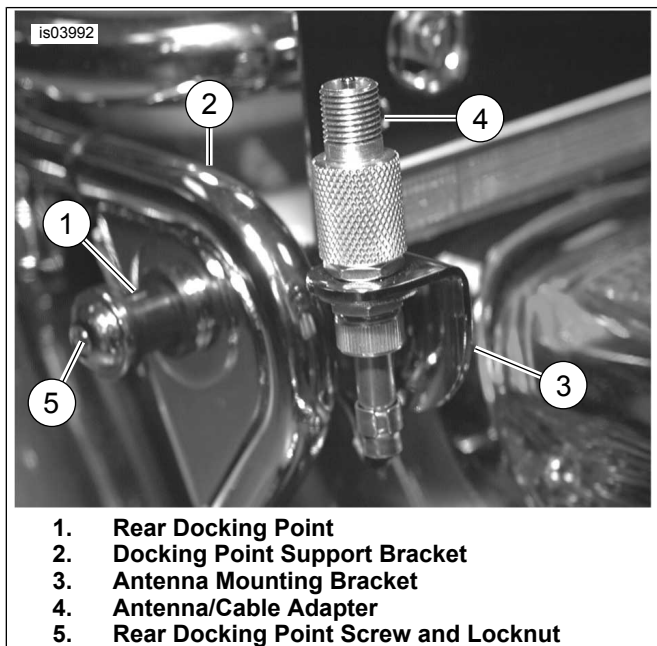
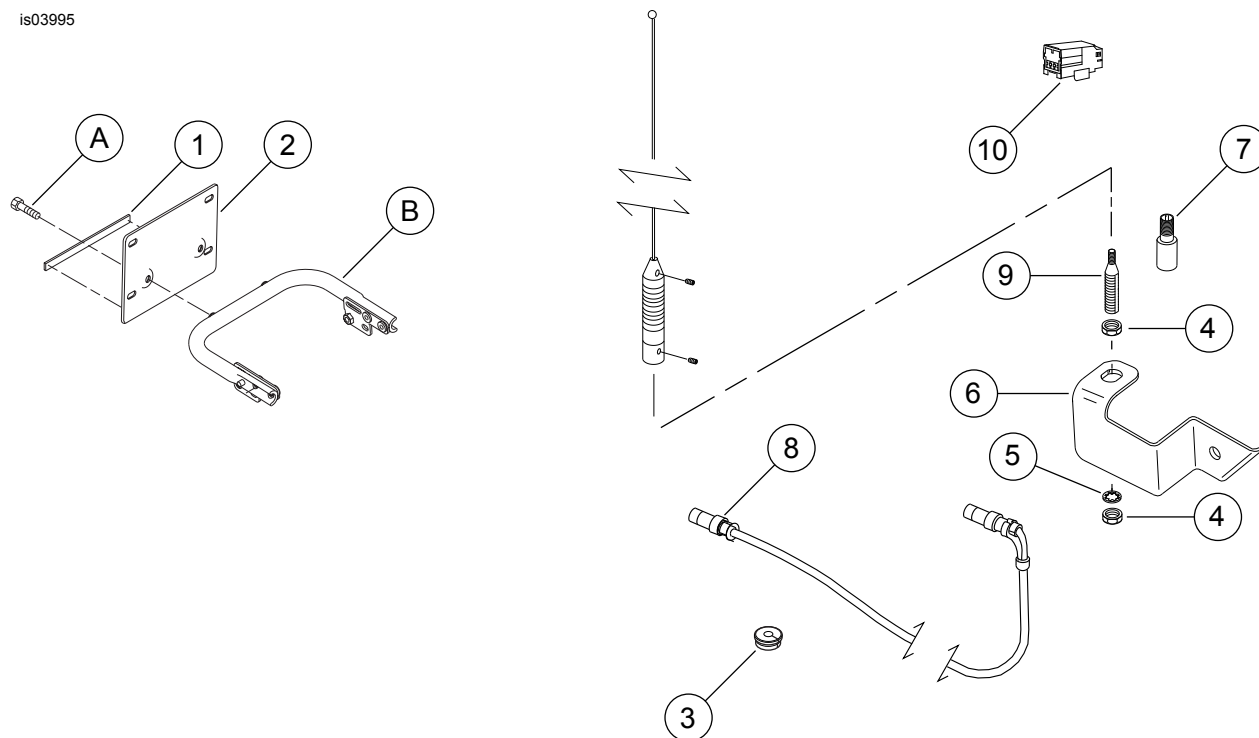

Figure 3. Relocated Antenna Bracket and Cable
Figure 6. H-D Detachables Tour-Pak Kit for Electra Glide Classic
See Figure 6 and Table 1.
1. See Figure 6. Assemble joint assembly (9) to antenna mounting bracket (6) using lockwasher (5) and 2 hex nuts (4). Tighten hardware securely.
2. See Figure 3. Install assembled antenna bracket (3) by removing screw and locknut (5) securing left rear docking point (1) to docking support (2). Install bracket as shown and install rear docking point screw and locknut. Tighten screw and locknut to 20.3–25.7 N·m (15–19 ft-lbs).
3. Thread antenna/cable adapter (4) onto joint assembly.
6. See Figure 6. Cap unused wiring connector with connector housing (10).
12. See Figure 3. Plug one end (connector) of antenna "patch" cable onto top of antenna adapter (4) and tighten knurled nut to secure connector. Route other end up and through 3/4 in diameter hole at the bottom front left side of Tour-Pak and plug into Tour-Pak antenna base. Tighten knurled nut. Make sure enough cable has been routed into Tour-Pak so that the cable rests flat on bottom of Tour-Pak. Secure in wire clips.
13. See Figure 6. Install grommet (3) in hole in Tour-Pak.
2. See Figure 3. Unscrew the antenna cable from the top of the antenna adapter.
3. Remove antenna adapter (4) and retain for use when Tour-Pak is reinstalled.
6. Install antenna mast to the antenna mount joint assembly (item 9 in Fig 6). Secure with set screw.